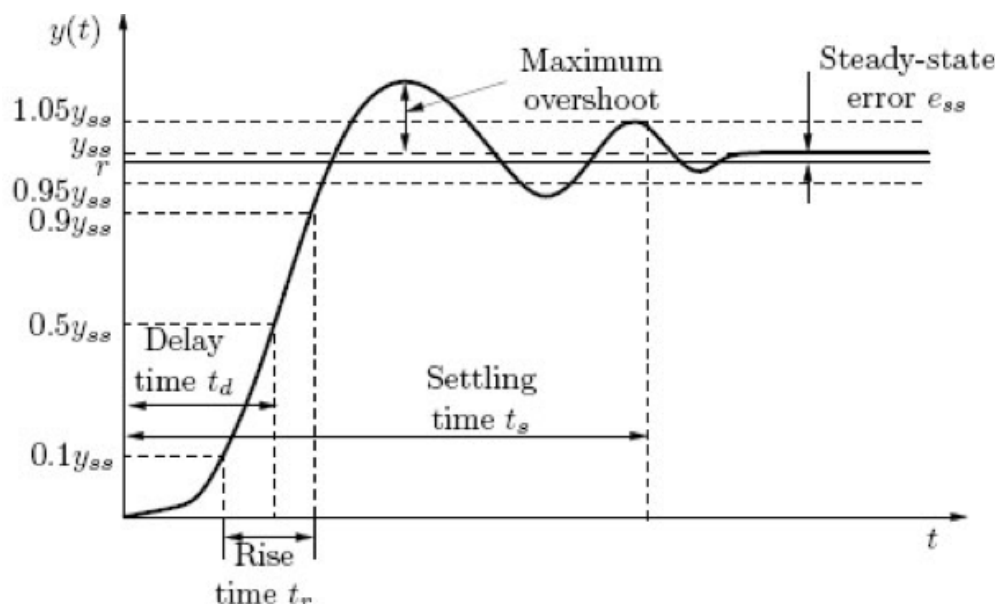

Figure 2: Typical step response of a linear second order system
A typical step response for a second order system of the form (3) is shown in Figure 2. Two important